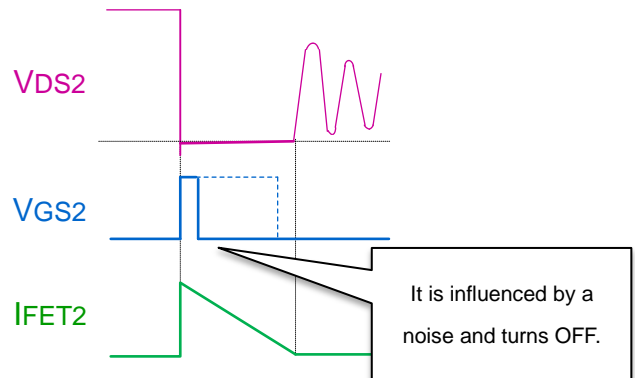

Figure 11. Waveform at abnormal operation
- Because of a noise generated by DRAIN pin voltage, the secondary-side MOSFET may be turned OFF as shown in Figure 11. In this case, adjust the circuit of evaluation board. For the method to adjust, see “BM1R001xxF series Application Note (No.60AN020E)”.